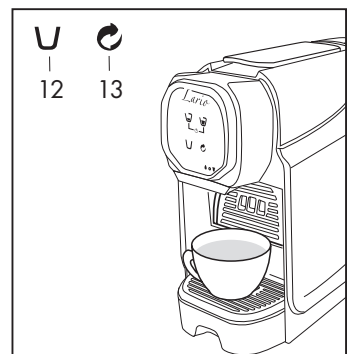

Fig. 13
- Press symbol (12) to dispense the drink (Fig.13) press the key again when the desired amount has been delivered.
- Press symbol (13) to activate the rinse function (Fig.13). Press the same key to stop the function.